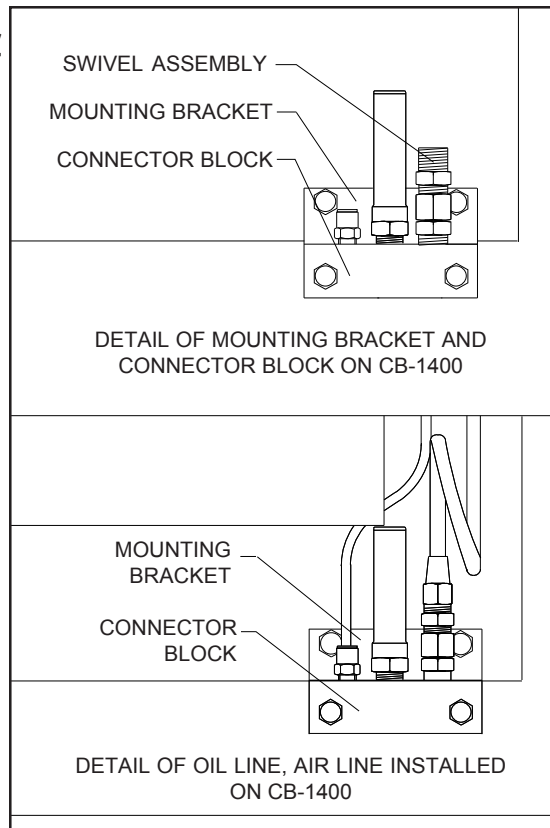

Figure 3K - Installation of Connector Block (CB-1400 only)
1. Refer to Figure 3K.
2. Install the mounting bracket on the furnace cabinet using the two (2) bolts supplied.
3. Install the connector block on the mounting bracket using the two (2) carriage bolts supplied.